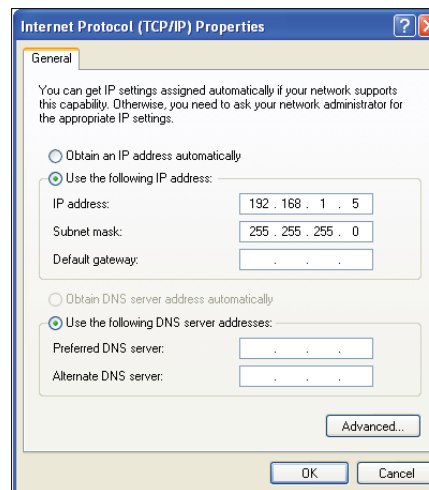

Figure 12: Internet Protocol Properties Window
- c.) Blank out the Default gateway setting (leave the setting blank as shown in **Figure 12**).
- d.) Blank out the Preferred DNS server setting and the Alternate DNS server setting (see **Figure 12**).